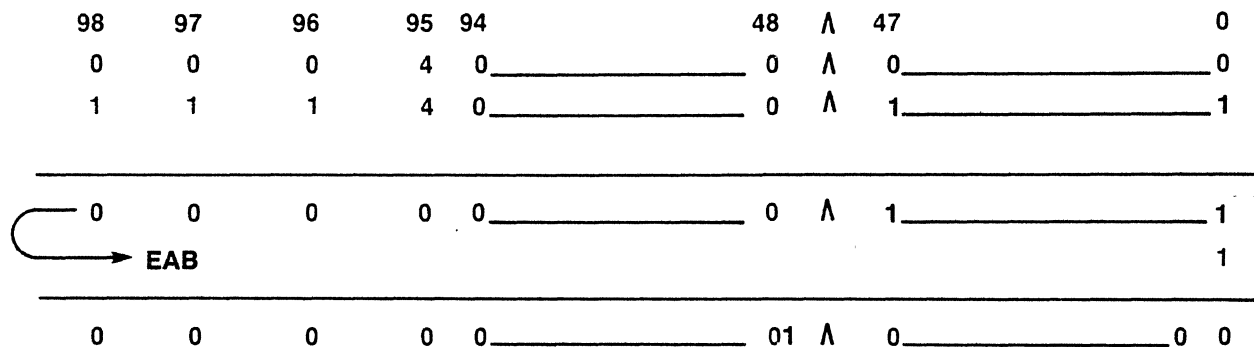

Figure 8-5. Floating Add Sequence EAB
A bit generated out of the coefficient satisfied in the sign bits can cause Overflow. EAB happens when that bit from the coefficient is passed all the way through the sign bits. Item b(2) in figure 8-6 shows End Around Borrow (EAB). This bit is then added to bit 0 of the noncoefficient. Item b(1) with the 3 sign bits equal to zero and a Borrow from bit 95 into bit 96 it will not have an End Around Borrow (End Around). But there will be Overflow. Look at item a(5) in figure 8-6 to see this. Look at item b(3) in figure 8-6; this shows one coefficient is positive and the other is negative and a Carry from the coefficient. Look at the following example in figure 8-5.